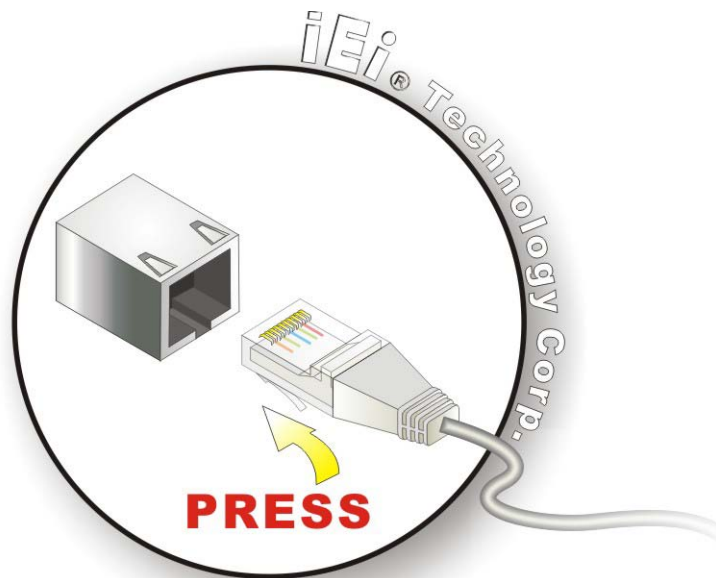

Figure 3-12: LAN Connection
Step 2: **Align the connectors.** Align the RJ-45 connector on the LAN cable with one of the RJ-45 connectors on the TANK-600. See **Figure 3-12**.